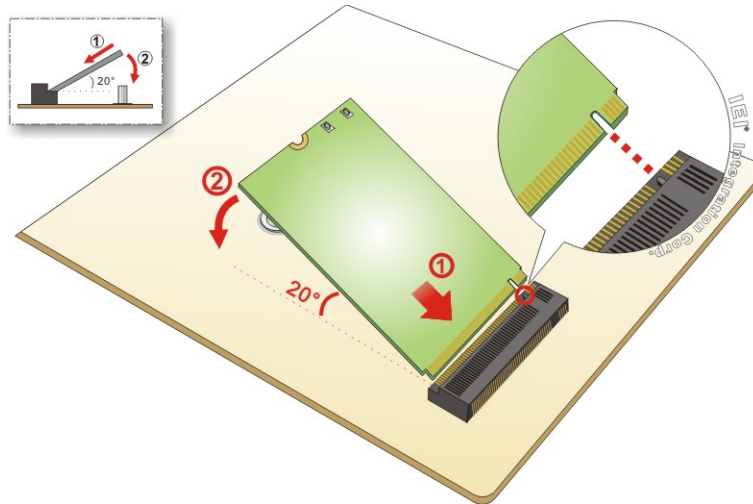

Figure 3-14: Inserting the WLAN Module
Step 5: Line up the notch on the WLAN module with the notch on the slot. Slide the WLAN module into the slot at an angle of about 20° (**Figure 3-14**).